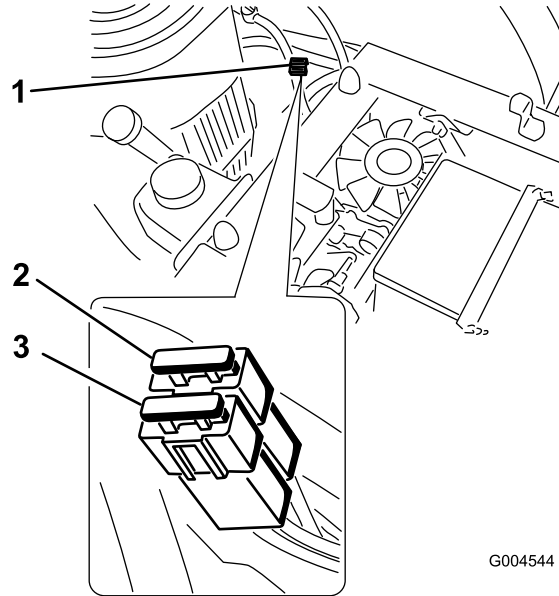

Figure 40
2. Raise the seat to gain access to the fuses on the left side of the machine (Figure 40).
4. Install a new fuse (Figure 40).